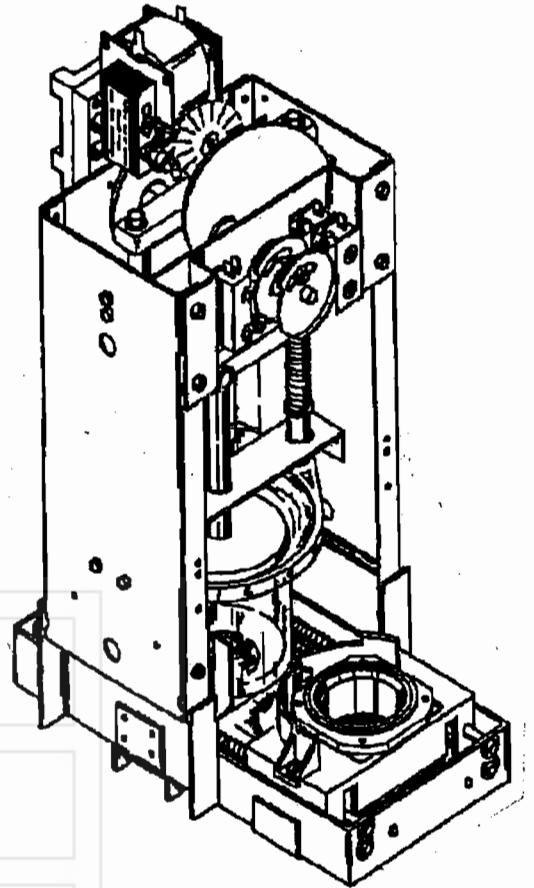

FIGURE 3.1
3. **COFFEE BREWER** - *Cycle the brewer to the dump position by depressing its right rear roller switch (see Figure 3.1) until the brewer continuously runs on its own. When the brew carriage reaches the forward dump position, then toggle OFF the 16 amp circuit breaker. Remove splash guard from the front of the brewer. Using spray hose, rinse any loose grounds from brewer and splash guard. Replace splash guard and close swing out bracket then toggle ON circuit breaker.*